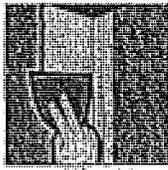

Fig. 12
**Paper-Faced Metal Corner Bead and Trim (Tape On)** To apply follow step 2 (paper tape). After inside corner is applied, using a 6" taping knife, apply a coat of joint compound to both sides of the corner. Keep this coat as smooth as possible, feathering it out 5"-6" on each side. Let dry. Sand sides lightly where necessary (fig. 12).